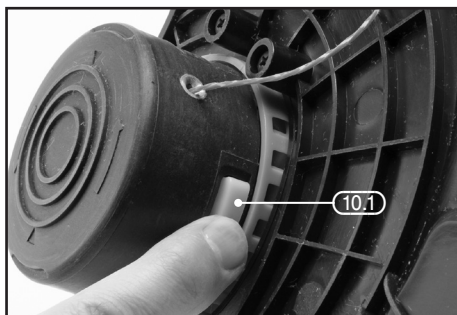

FIG.14
- Whilst holding the shaft, push and hold the cutting head angle adjustment lever (8).
10.4 EDGE GUARD – FIG.14